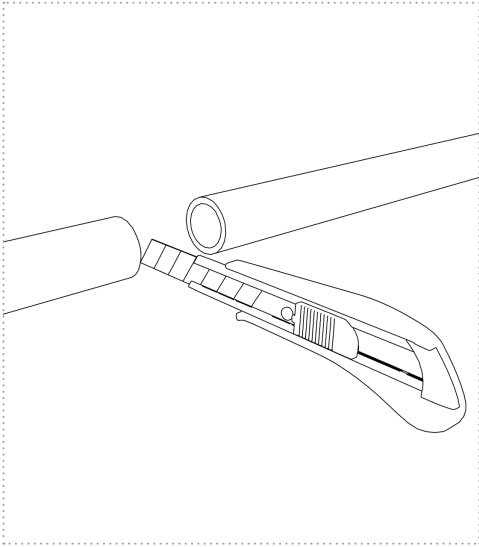

Figure 7
1. Cut the water line at the desired installation location according to Figure 7. For hoses, ensure a straight cut.